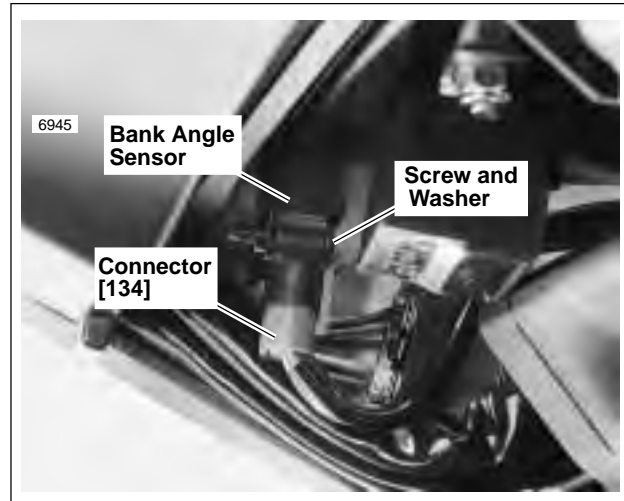

Figure 4-82. Bank Angle Sensor
1. See Figure 4-82. Locate bank angle sensor below left side of tail section. Unplug sensor connector [134].
3. See Figure 4-82. Plug connector [134] into bank angle sensor.